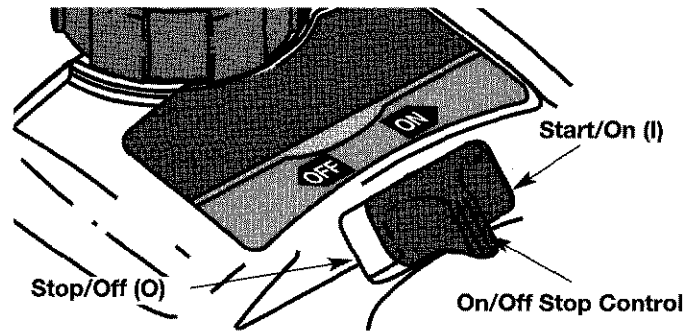
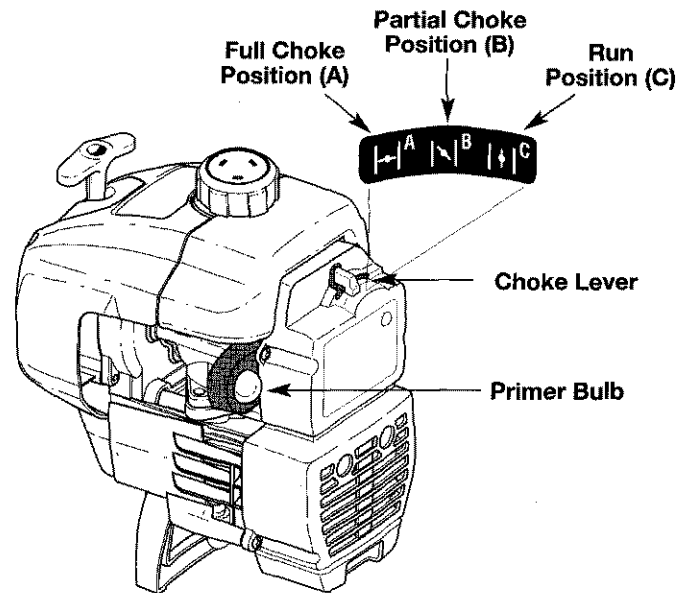

Fig. 7
Fig. 8
2. Put the On/Off Stop Control in the **ON (I)** position (Fig. 7).
3. Fully press and release primer bulb slowly 5 to 7 times. Fuel should be visible in the bulb (Fig. 8). If fuel is not visible, press three (3) more times, or until it is.
4. Place the choke lever in the **FULL** choke (A) |←| position (Fig. 8).
6. Place the choke lever in the **PARTIAL** choke (B) |↘| position (Fig. 8).
NOTE: If the engine floods while trying to start, place the choke lever in the **RUN (C)** |↑| position (Fig. 8). Squeeze the throttle control. Pull the starter rope briskly. The engine should start within three (3) to eight (8) pulls.
9. Squeeze the throttle control to warm up engine for 5 to 10 seconds. Place the choke lever in the **RUN (C)** |↑| position (Fig. 8).
NOTE: Choking is unnecessary when starting a warm engine. Put the On/Off Stop Control in the **ON** position (Fig. 7), and start in **PARTIAL** choke (B) |↘| position (Fig. 8).
2. Put the On/Off Stop Control in the **OFF (O)** position (Fig. 7).